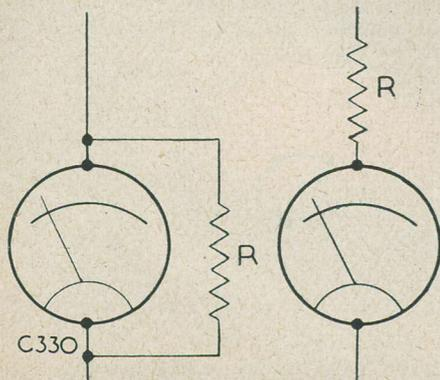

Fig. 1. Left—shunt resistor to increase current range. Right—series resistor to increase voltage range.
It is not the intention of this particular article to deal with complicated stabilisation which may involve two or three valves as well. The neon on its own can, however, keep voltage constant most desirably where there is small current drain. In particular this is associated with the stabilisation of local oscillators where fluctuations in supply voltage can mean frequency drift. The neon thus maintains a constant voltage on the oscillator anode and the constructor building superhets or signal generators for use on short-waves is strongly recommended to fit a neon stabiliser as shown in Fig. 1. With weak signals on the higher frequencies—and other things being good!—a great improvement is usually noticed. Calibration will be more reliable and there should not be that annoying need for retuning every few minutes.
Fig. 1. Neon tube used for voltage stabilisation to prevent frequency drift.  $R1$  acts as a series resistor for both the oscillator anode and the neon. Suitable tubes are the VR150/30, VR105/30 and the Mullard 7475.
**T**HE 6-valve 8-watt amplifier shown diagrammatically in Fig. 1 was developed to meet a sudden call for speech equipment at a local sports meeting. The news that only limited transport was available, together with a quick review of existing gear and components, were both un-encouraging. Existing amplifiers were ruled out on account of size and weight and it appeared that a new amplifier, using stocks to hand, must be built for AC/DC operation. The amplifier must be built to a chassis size of something less than 6in. square and 4in. deep, so that for transport the amplifier could be placed within the speaker box baffle and it was accordingly decided to build up something simple in semi-midget form, to tolerate an expected high hum level, and to strip down the circuit as soon as the job was done.
It will be seen from Fig. 1 that the circuit consists of a two-stage voltage amplifier feeding, through a phase-splitter V3, into a push-pull output stage. The only valves ready for immediate use were 0.2 amp AC/DC types so that the heaters are connected in series. In areas where the amplifier is intended solely for DC operation the heater of the phase-splitter V3, may with advantage be made the last in the chain, the heater sequence then being V3, V5, V4, V2, V1, but for
AC and AC/DC operation the sequence shown in Fig. 1 should be used.